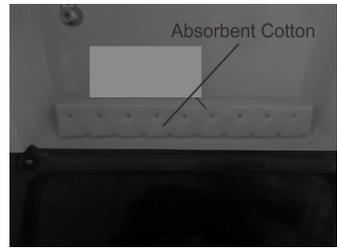

Figure 14
1. **Replacement of oil mist filter cotton and oil-absorbing cotton. (As fig 14 shows)**